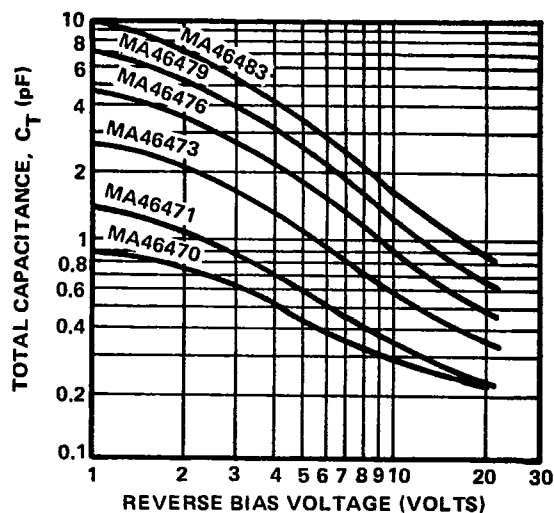
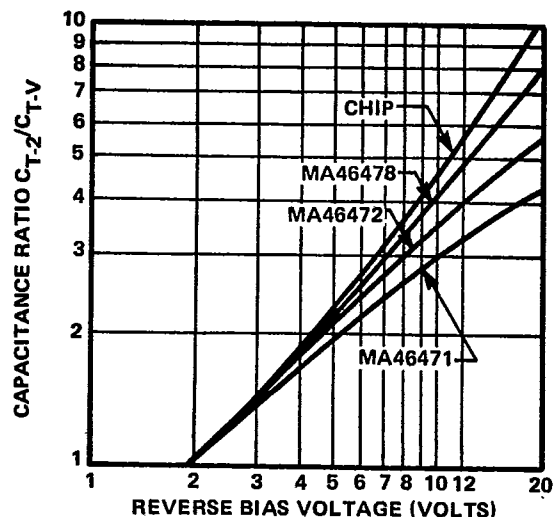
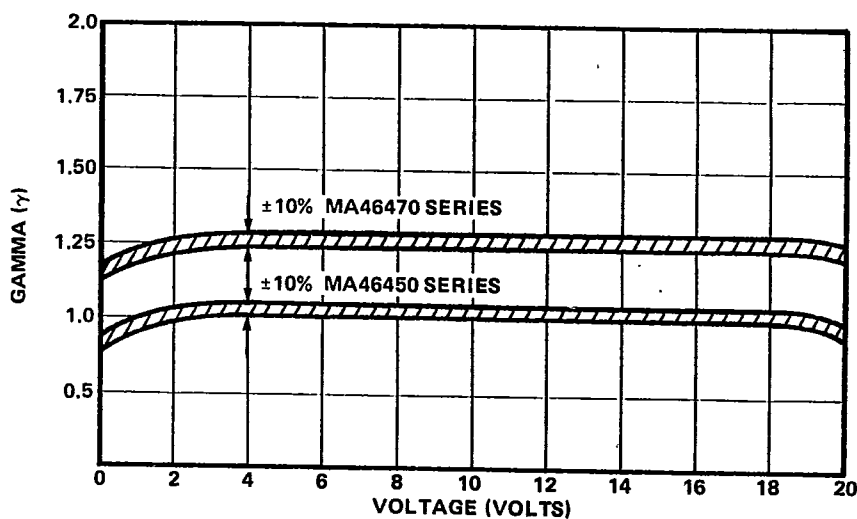

FIGURE 1. Total Capacitance vs. Reverse Bias Voltage (Case Style 30)
FIGURE 2. Capacitance Ratio vs. Reverse Bias Voltage (Case Style 30)
FIGURE 3. Gamma vs. Voltage
- characteristics due to differences in case capacitance (C_p). Figures 1 and 4 illustrate typical total capacitance versus applied voltage for these series when case style 30 is selected. Figure 3 illustrates the typical range of γ versus voltage when case style 30 is selected. Figures 2 and 5 illustrate typical capacitance ratios versus applied voltage in case style 30.